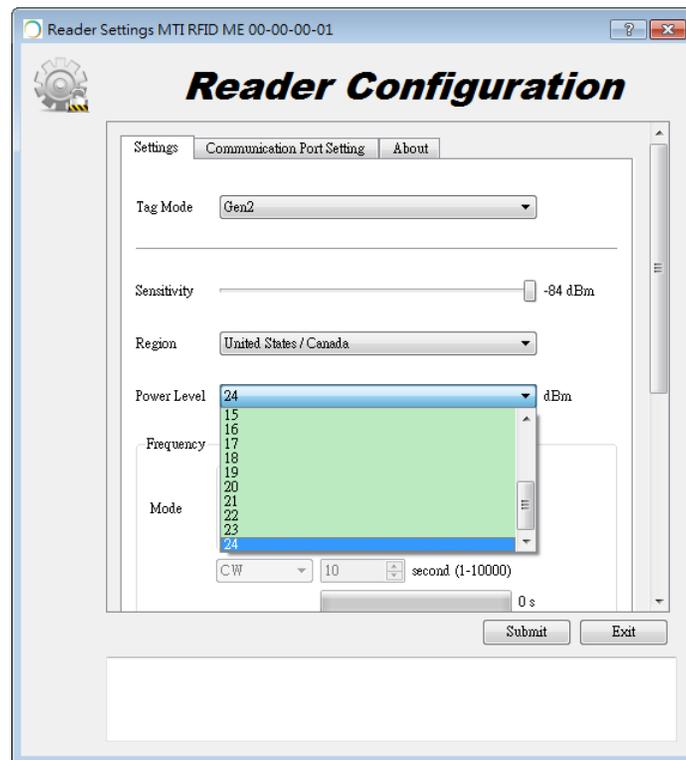

Figure 12
- To achieve the longest reading or writing range, set the power to the maximum allowable level of +24dBm as shown in Figure 12.